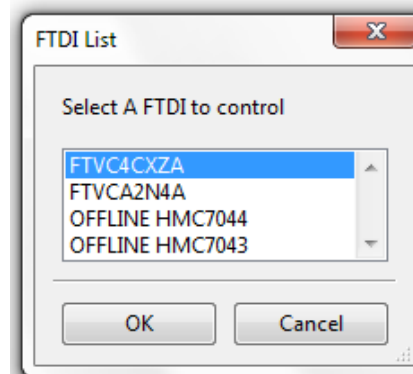

Figure 4. Select USB Device Window—Multiple Evaluation Boards Found
4. If the evaluation board was not found, a dialog box appears to select either HMC7044 offline mode or HMC7043 offline mode (see Figure 4). Offline mode is useful for viewing and generating register setup files.
5. If multiple HMC7044 evaluation boards are connected to the same PC, a hardware selection dialog box appears (see Figure 4). The text in this window is either a serial number, **OFFLINE HMC7044**, or **OFFLINE HMC7043**. Select the serial number and click **OK**.